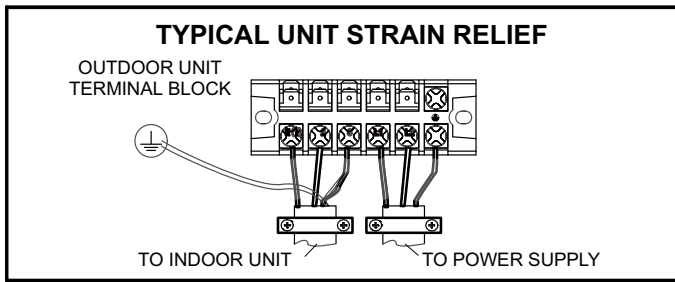

FIGURE 30
7. Use the strain relief to secure the cabling (figure 30).